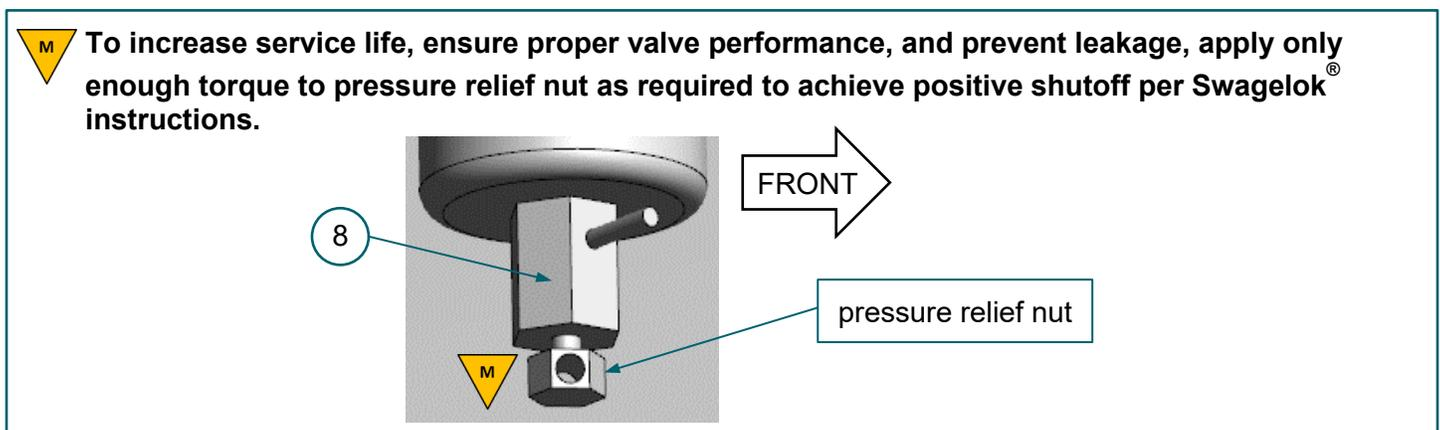

FIGURE 4–4. (8) bleed valve, pressure relief nut
- d. Tighten the pressure relief nut to finger tight then use a 7/16-in wrench to apply just enough pressure to stop the flow of fuel. **FIGURE 4–4**